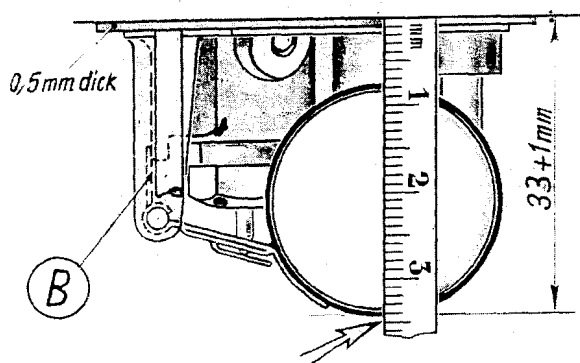

Fig. 195. Float valve fully open, measured without packing
The dimension (33 mm) given in Fig. 195 limits the float travel downwards and can be readjusted at the stop tongue (B).